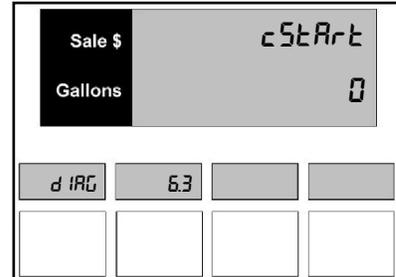

Figure D.6.3 – Cold Start Counter
- The main display shown in *Figure D.6.3* appears. The PPV display shows the dispenser is in Diagnostics Level 6.3.